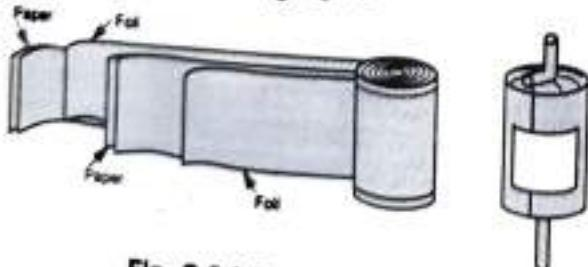

Fig. Q.5.1 Paper capacitor
- To protect against moisture, this roll is encapsulated. The construction is shown in the Fig. Q.5.1